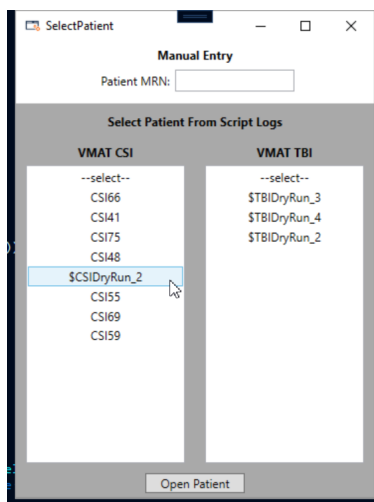

Figure 1: Patient selection UI
- A simple UI will appear (Figure 1)